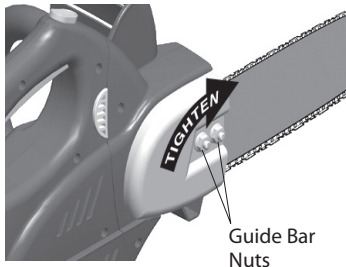

Figure 11 - Tighten Guide Bar Nuts
- After chain tension is correct, tighten guide bar nuts firmly (see Figure 11).